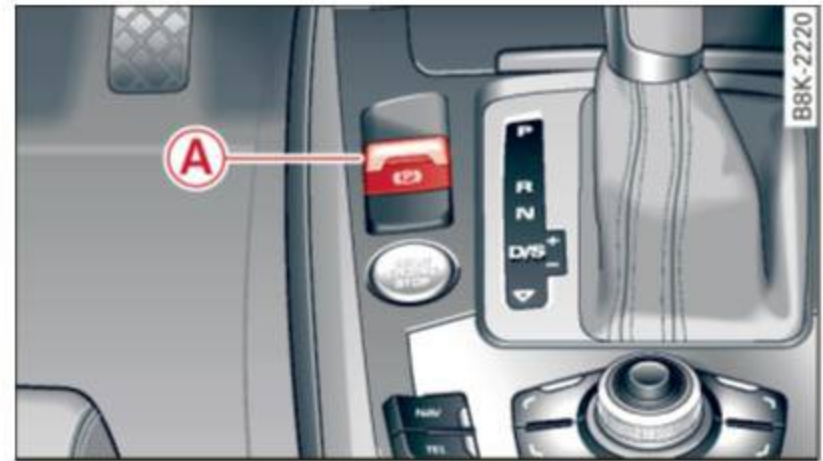

Fig. 78 Center console: Parking brake
- ▶ Pull on the switch (A) ⇒ fig. 78 to apply the parking brake. The indicator light in the switch illuminates.
- ▶ Pull the switch  ⇒ *page 76, fig. 78* to set the parking brake.
- ▶ Pull the switch  ⇒ *page 76, fig. 78* to apply the parking brake. ▶
- ▶ Keep the switch  ⇒ page 76, fig. 78 pulled and depress the accelerator. The parking brake stays applied and prevents the vehicle from rolling backward.
- ▶ In an emergency, pull the switch  ⇒ page 76, fig. 78 and continue to pull it to slow your vehicle down with the parking brake.